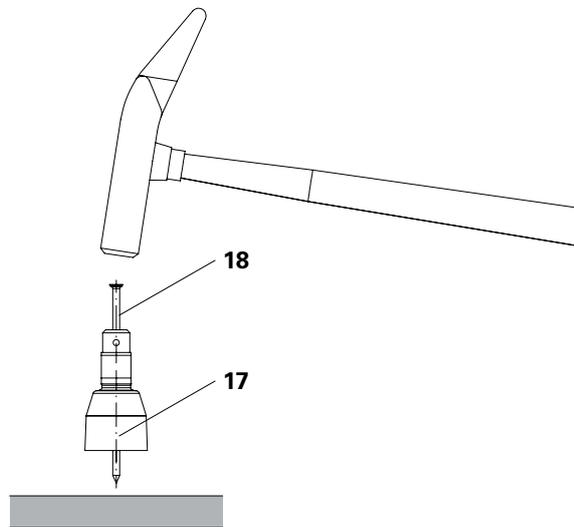

Fig. A5.02a
2. Insert wire nail 4.6 x 130 (18) into the Threaded Cone M24 (17).
3. Position the Threaded Cone M24 (17) on the formlining and completely hammer in the wire nails 4.6 x 130 (18). (Fig. A5.02a)